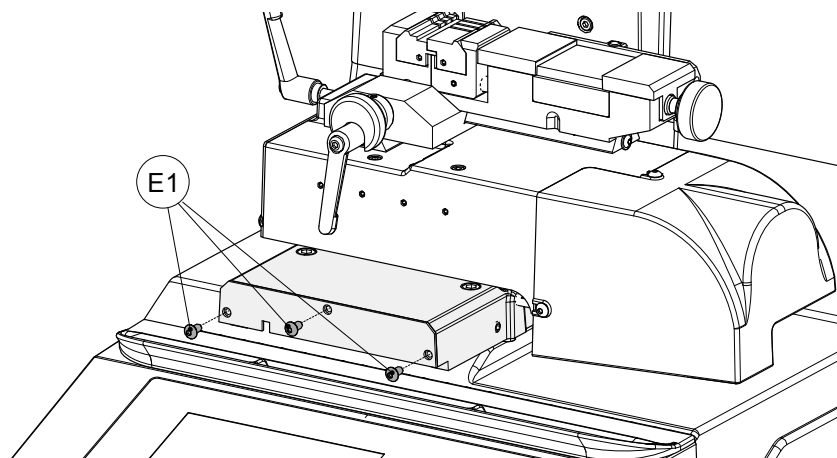

Fig. 48
8) Loosen the 3 screws (E1) and remove the lower carriage front cover (Fig. 48).